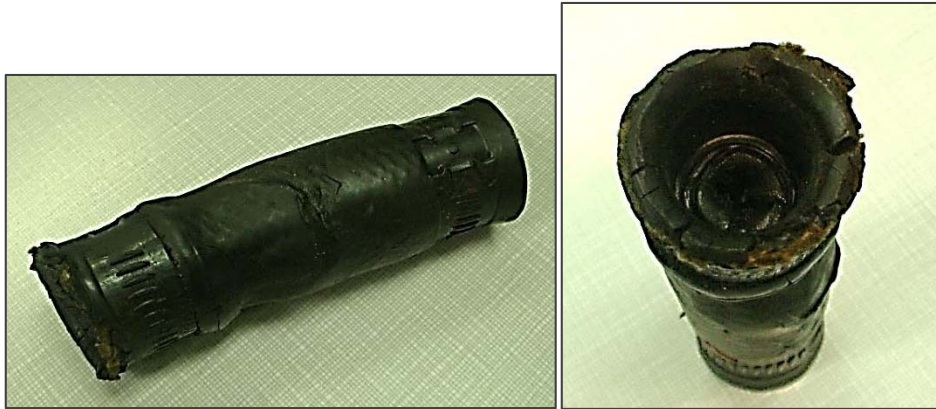

Figure 1. Example of deformed hose adapter, P/N 4120032-11
- 6.3    Inspect the interior and exterior condition of the hose for deformation (see Figure 1 example).